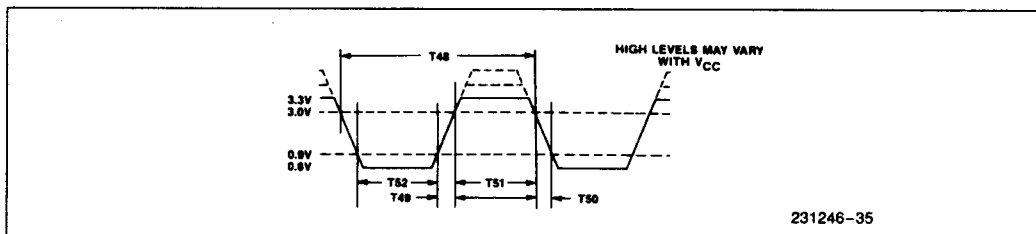

Figure 34. TxC Input Voltage Levels for Timing Measurements
14. 82C501 compatible levels, see Figure 34